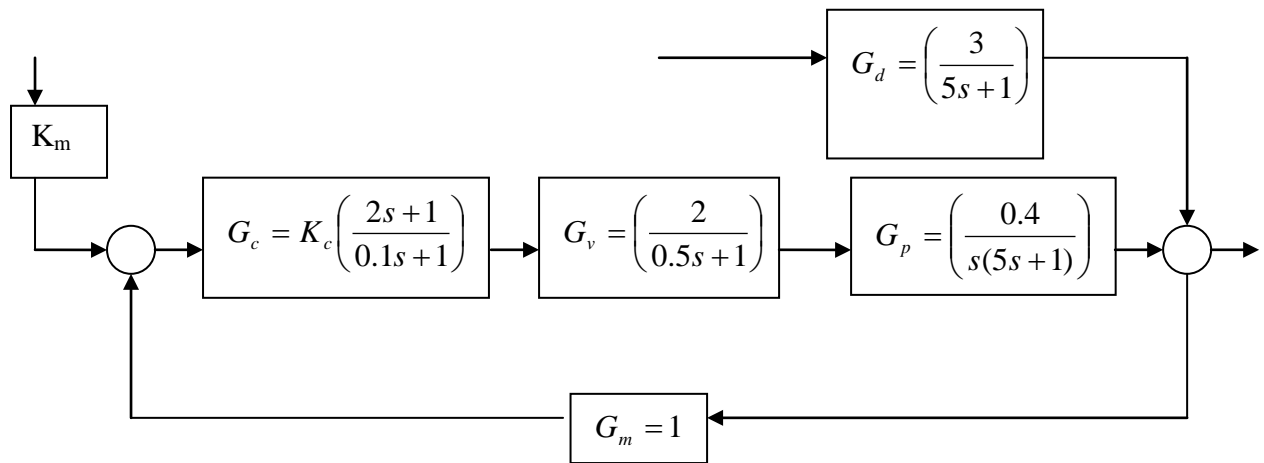

Figure Q.4.
4. Illustration of feedback control system is shown in Figure Q.4. with the associated transfer functions.